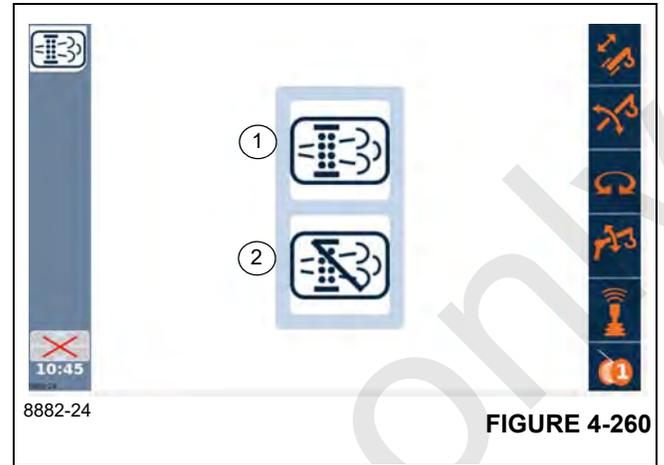

FIGURE 4-260
The Exhaust System Cleaning function (Figure 4-260) allows the operator to either initiate an exhaust system cleaning or inhibit an exhaust system cleaning.
6. Using the Jog Dial or the Up/Down Arrow Buttons on the Navigation Control Pad, select the Initiate Exhaust System Cleaning Process Icon (1), (Figure 4-260) (icon turns orange).
Pressing the service brake pedal or throttle pedal during cleaning or selecting the Inhibit Cleaning Process Icon (2), (Figure 4-260) will interrupt the manual cleaning process.